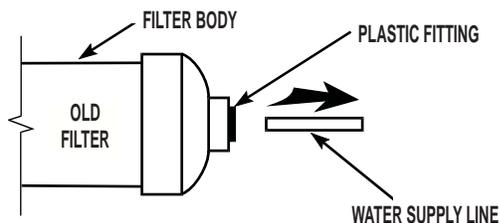

FIGURE 1
2. While holding the plastic fitting against the filter body, pull the water line straight out. The plastic fitting should remain on the filter. Repeat procedure for the other end of the filter. See Figure 1.